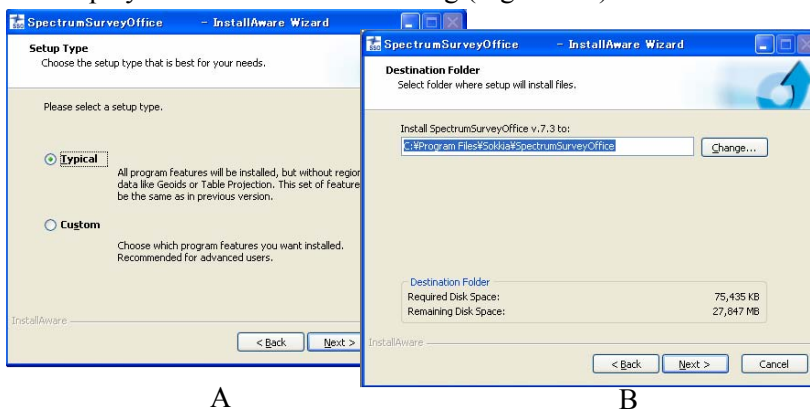

Figure 1-2. Typical Setup Type
- display the next installation dialog (Figure 1-2).
3. Either keep the default installation folder or click **Browse** to select a different folder in which to install the Spectrum Survey Office. Click **Next** to continue (Figure 1-2, picture B).